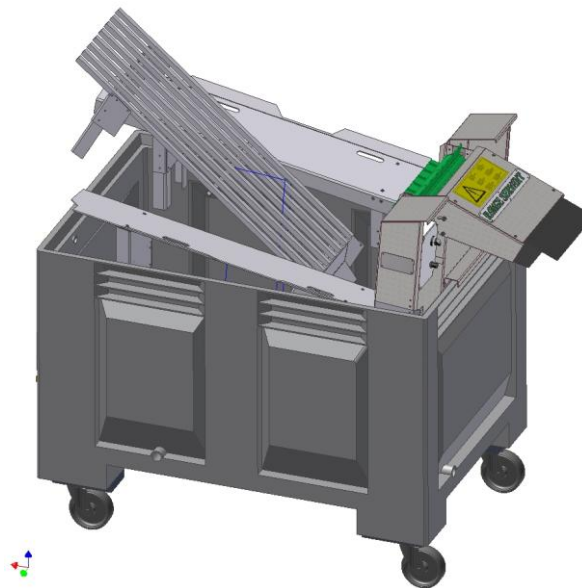

Figure 6: Periodical maintenance.
- II. Take out the two metal side plates and bottom grid assembly. See Figure 6: Periodic maintenance.